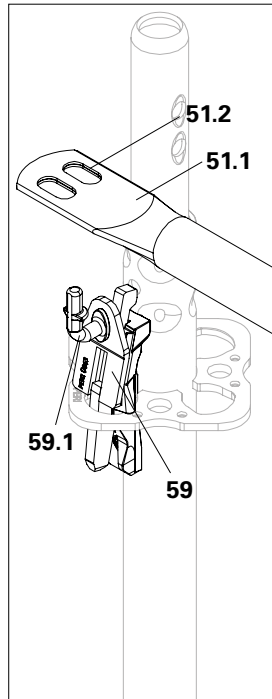

Fig. A3.01a
1. Insert Guardrail Holders EPW (59) into the rosettes of the Standards UVR-2. Guardrail hooks must point inwards towards the deck. Secure the wedges. (Fig. A3.01a)
1. Turn the connecting pieces (51.1) of the guardrail post horizontally and position them on the guardrail hooks. (Fig. A3.01a)